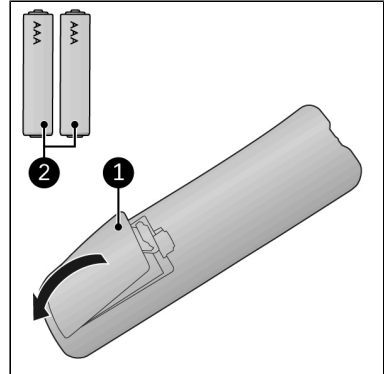

Figure 30.
1. Remove the cover (Figure 30, pos. 1).
3. Insert two batteries (AAA 1.5 V) (Figure 30, pos. 2) as indicated in the battery compartment. Make sure to insert the batteries correctly.